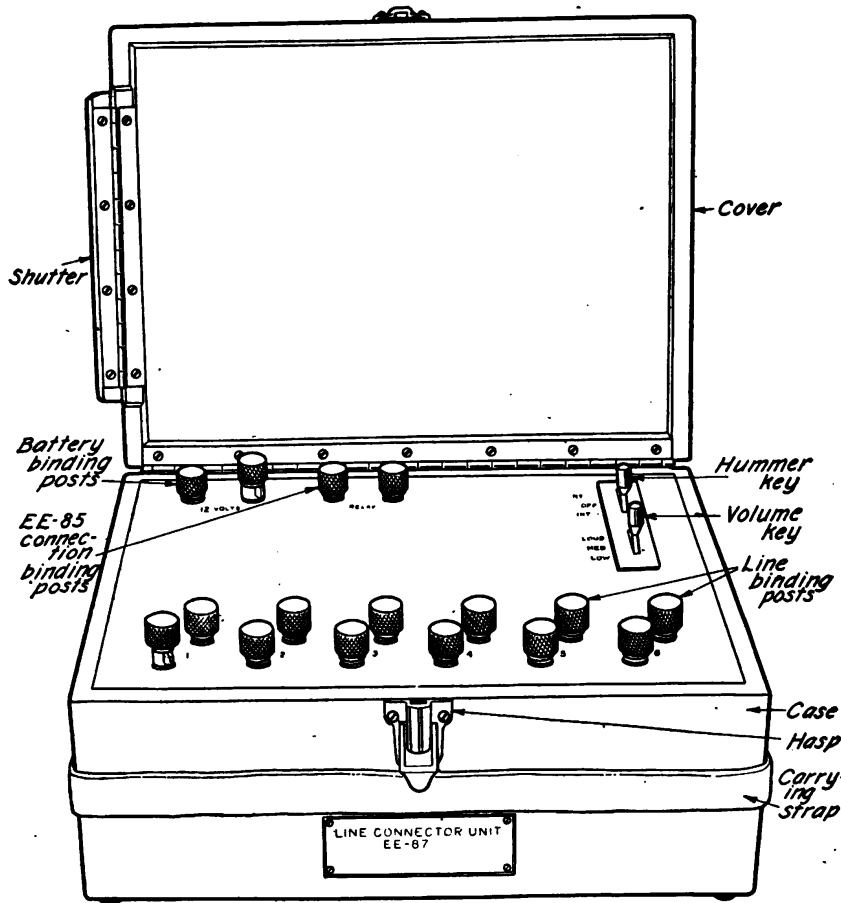

FIGURE 9.—Line connector unit EE-87.
7. **Line connector unit EE-87.**—This unit (fig. 9) supplies tone to telephone lines for time indications. It contains a line relay, tone generator, and transformers for supplying tone to the telephone lines, and receives its power for operation from the same battery used for operation of the time interval multiplier.